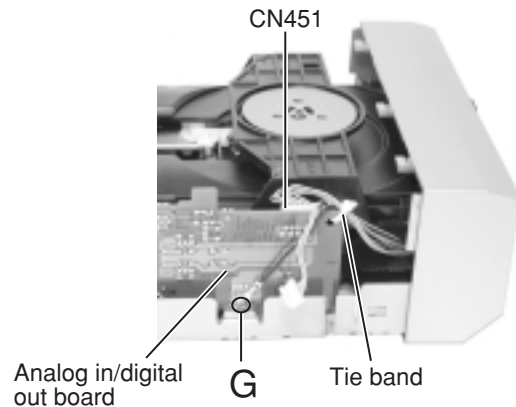

Fig. 8
■Removing the analog in/digital out board and the relay board (See Fig.8 to 10)